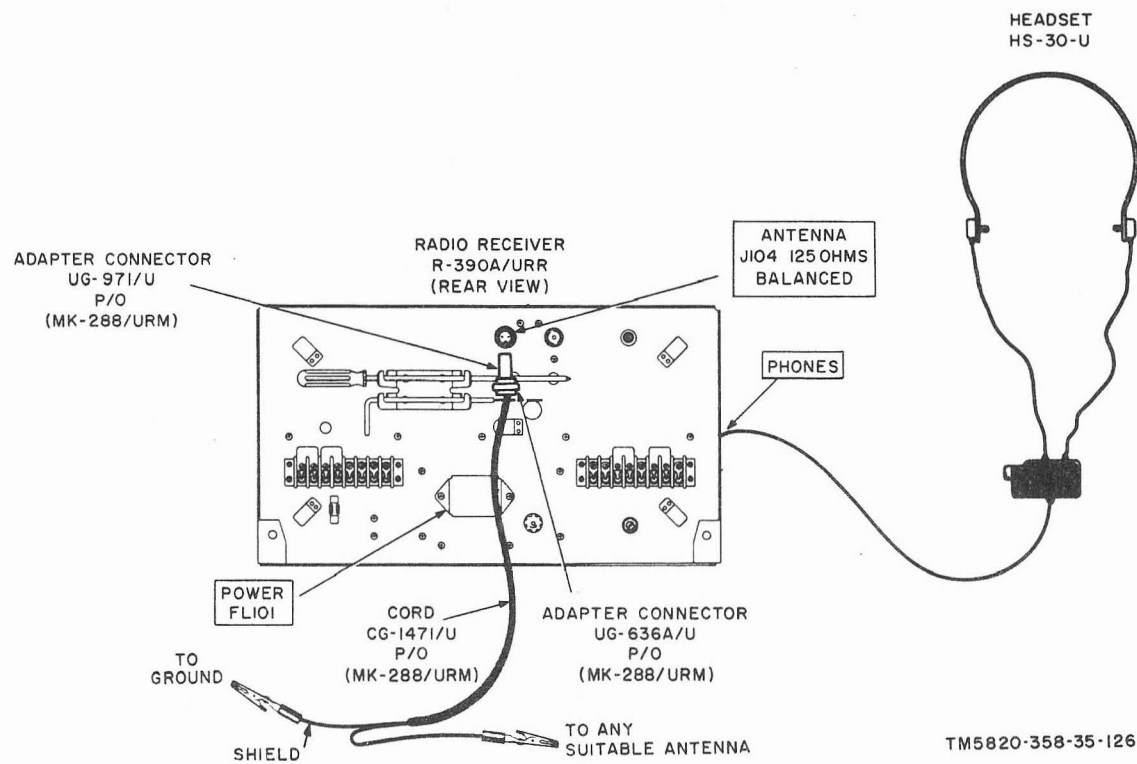

Figure 81. Operational tests setup.
(fig. 81)
b. Test Connections and Conditions. Connect the equipment as shown in figure 81. Dial indicators should light.